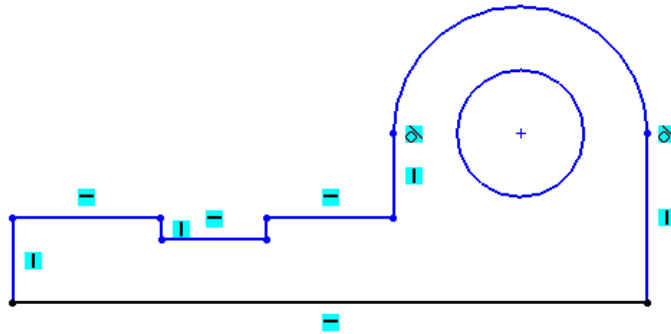

Figure 2-65 Final sketch for Tutorial 3
18. Choose the **Zoom to Fit** button from the **View (Heads-Up)** toolbar to fit the sketch into the screen. This completes the outer loop of the sketch. The sketch after drawing the outer loop appears as shown in Figure 2-65.
The final sketch for Tutorial 3 is shown in Figure 2-65.